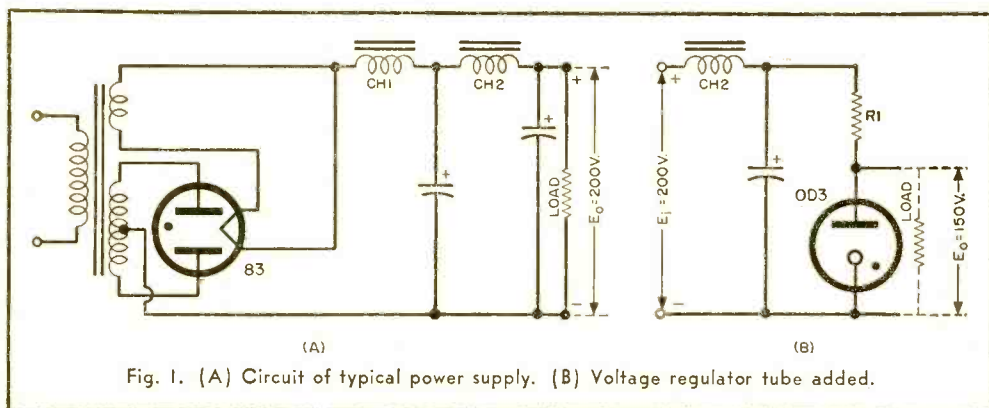

Fig. 1. (A) Circuit of typical power supply. (B) Voltage regulator tube added.
Fig. 1. Diagram of a typical, crystal-controlled oscillator. With power supply and antenna, this oscillator forms a practical, low-power c.w. transmitter, operation of which is discussed in the text.
ments, other elements in a power-supply circuit still have to be reckoned with. Figure 1 (A) illustrates a common type of full-wave power supply using a mercury-vapor rectifier. Although this tube makes a substantial contribution to the stability of the supply, the constant resistance of the filter chokes (*CH1* and *CH2*) is still present in the circuit. Hence, changes in load that cause varying drops in potential across these components will still be responsible for serious output fluctuations.
But once more the constant-potential characteristic of a gas-filled tube comes to the rescue. This time it appears in the form of a cold-cathode tube filled with argon, helium, neon, or a combination of these gases. Having the voltage-juggling nature typical of its family, it may be connected into the output section of the power supply, as shown in Fig. 1 (B), to yield a usable voltage upon which moderate load variations have no appreciable effect.